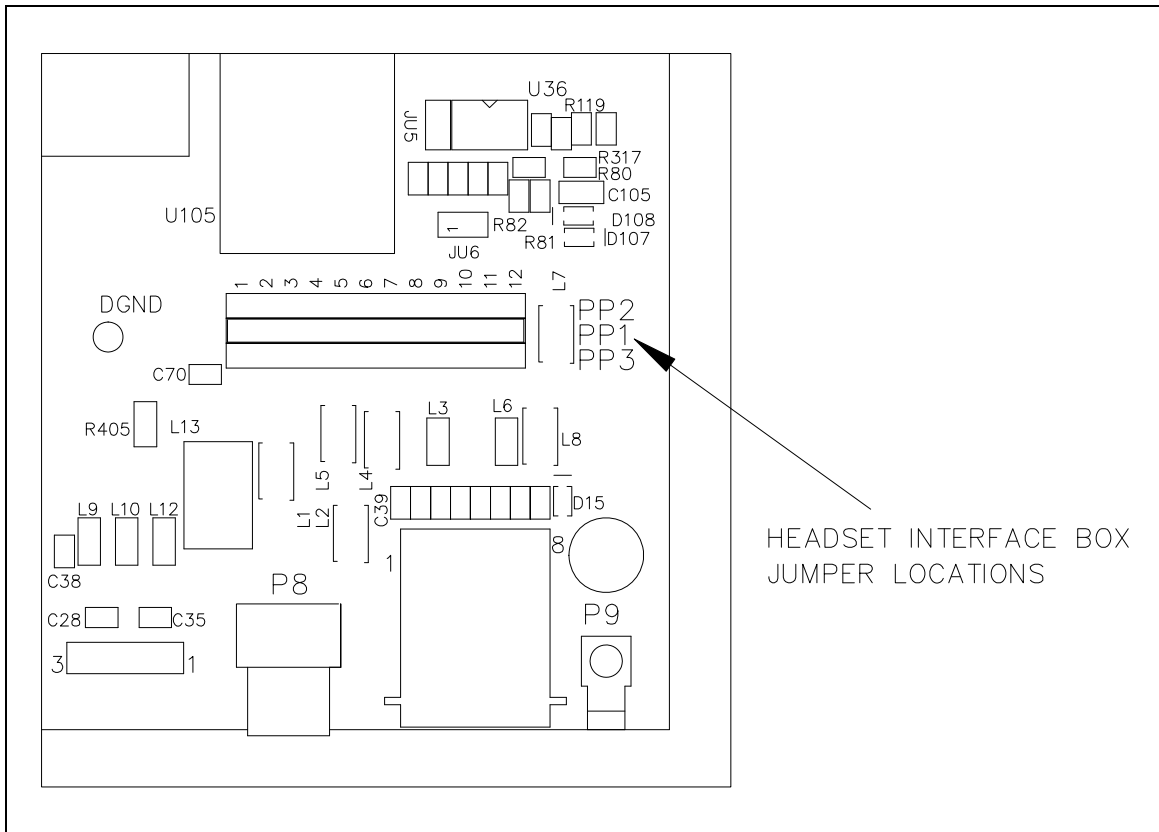

Figure 8. Main Board Microphone Jumper Positions
Refer to Figure 8 below for the board position of JU5 and JU6. The default for these jumpers is OUT.
The interface box allows the use of several headset accessories, such as the Startset II, Supra headband-style monaural headset, and Supra headband-style noise-canceling headset. The headset jack is assembled for mounting beneath a horizontal surface or edge. Its use requires proper jumper installation. See Figure 8 for jumper locations.
1. Remove the Navigator control ribbon cable from PP1 on the Navigator Display Extender PC board and PP1 on the main board. Keep the cable for future use. Use Figure 8 for reference on the main board.